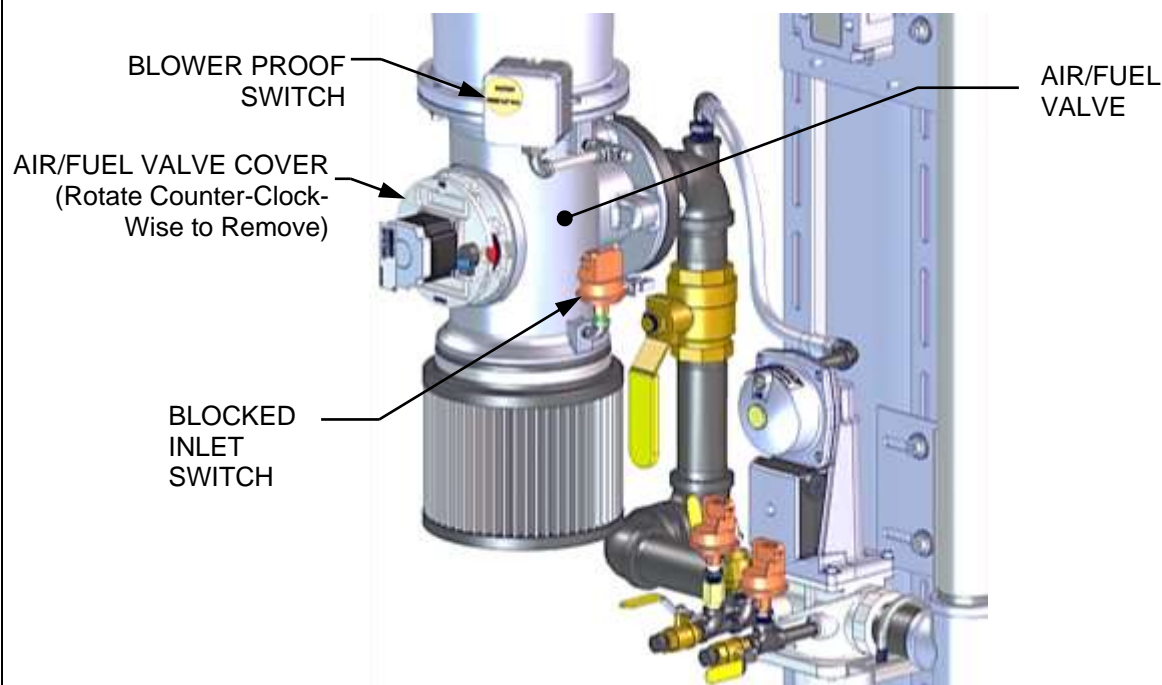

Figure 5-10: Air/Fuel Valve Cover Location – BMK1500 Shown
4. Remove the Air/Fuel Valve cover by rotating the cover counterclockwise to unlock it (see Figure 5-10).
4. Remove the Air/Fuel Valve cover (Figure 5-10, above) by rotating the cover counterclockwise.